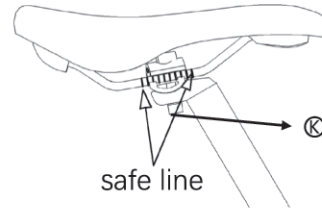

Figure 53-1.
- Ensure that the clip of the saddle tube does not exceed the safety line of the saddle guide rail, as shown in Figure 53-1.